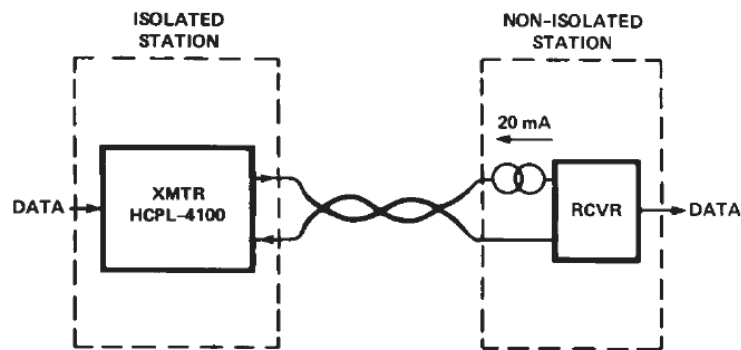

Figure 12. Simplex Point to Point Current Loop System Configuration.
2. Derate linearly above a free-air temperature of 70°C at a rate of 2.3 mW/°C. A significant amount of power may be dissipated in the HCPL-4100 output circuit during the transition from the SPACE state to the MARK state when driving a data line or capacitive load (C_{OUT}). The average power dissipation during the transition can be estimated from the following equation which assumes a linear discharge of a capacitive load: $P = I_{SC} (V_{SO} + V_{MO})/2$, where V_{SO} is the output voltage in the SPACE state. The duration of this transition can be estimated as $t = C_{OUT} (V_{SO} - V_{MO})/I_{SC}$. For typical applications driving twisted pair data lines with NRZ data as shown in Figure 12, the transition time will be less than 10% of one bit time.
The simplex configuration, whether point to point or multidrop, gives unidirectional data flow from transmitter to transmitter(s). This is the simplest configuration for use in long line length (two wire), moderate data rate, and low current source compliance level applications. A block diagram of simplex point to point arrangement is given in Figure 12 for the HCPL-4100 transmitter optocoupler.